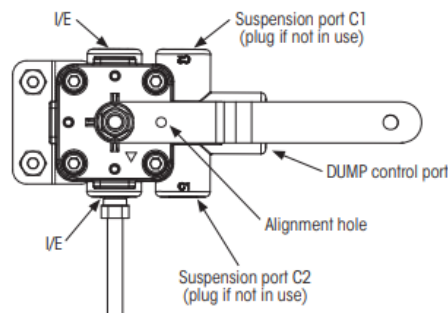

Figure 20 Leveler valve
1. Remove the plug from Port C2 on the airbag leveling valve (see Figure 20).